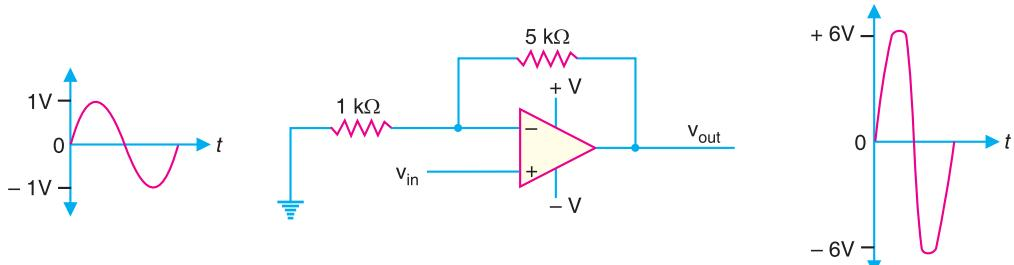

Fig. 25.59
**Example 25.34.** For the noninverting amplifier circuit shown in Fig. 25.59, find peak-to-peak output voltage.